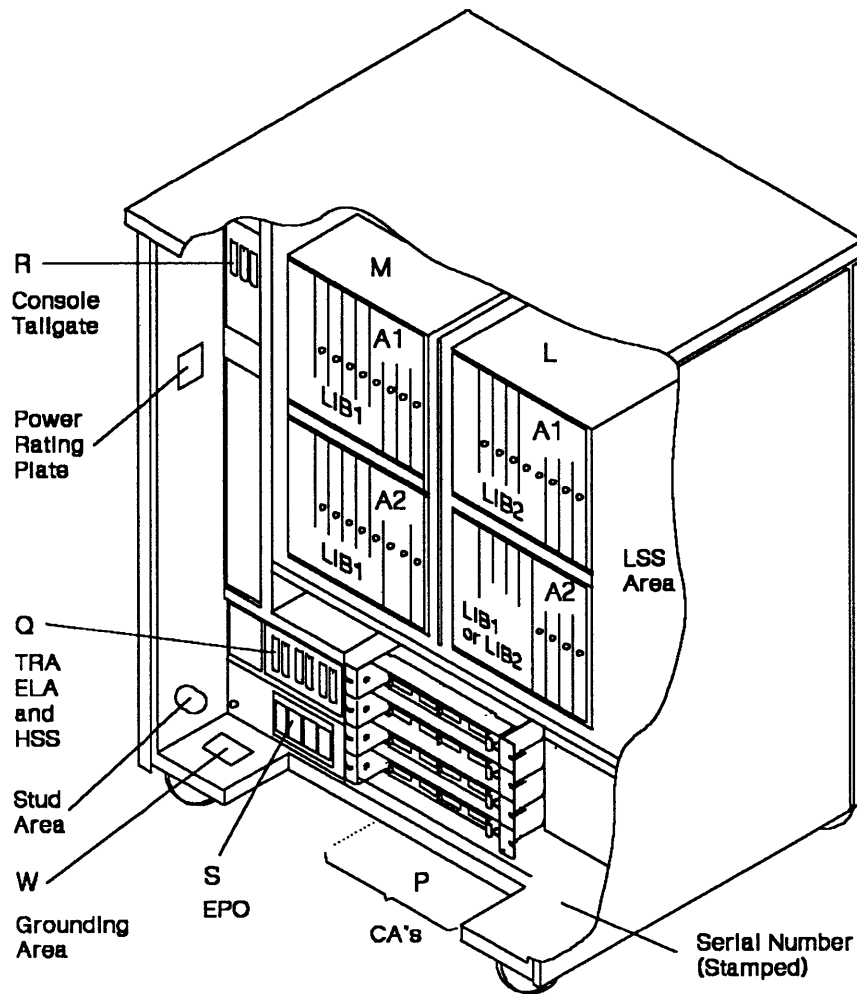

Figure 1-3. 3745 Component Locations (Rear - Model 170)
- Step 3. ____ At the rear of the machine, locate the power rating plate on the left side (see Figure 1-3 on page 1-6). **Check that the 3745 ac power rating plate data is consistent with the customer's available voltage, current and frequency.** If there is a mismatch, stop the installation, check with the customer, and notify the IBM sales representative.
- Step 5. ____ Check the serial number on the control panel front tag. At the rear of the machine, check the serial number stamped on the frame at the bottom right of the machine (see Figure 1-3 on page 1-6).